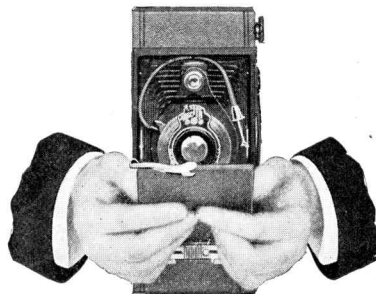

FIG. 1
3. Close front by pressing down on arm locks on each side of bed as shown in Fig. 1. The bed will now close readily.